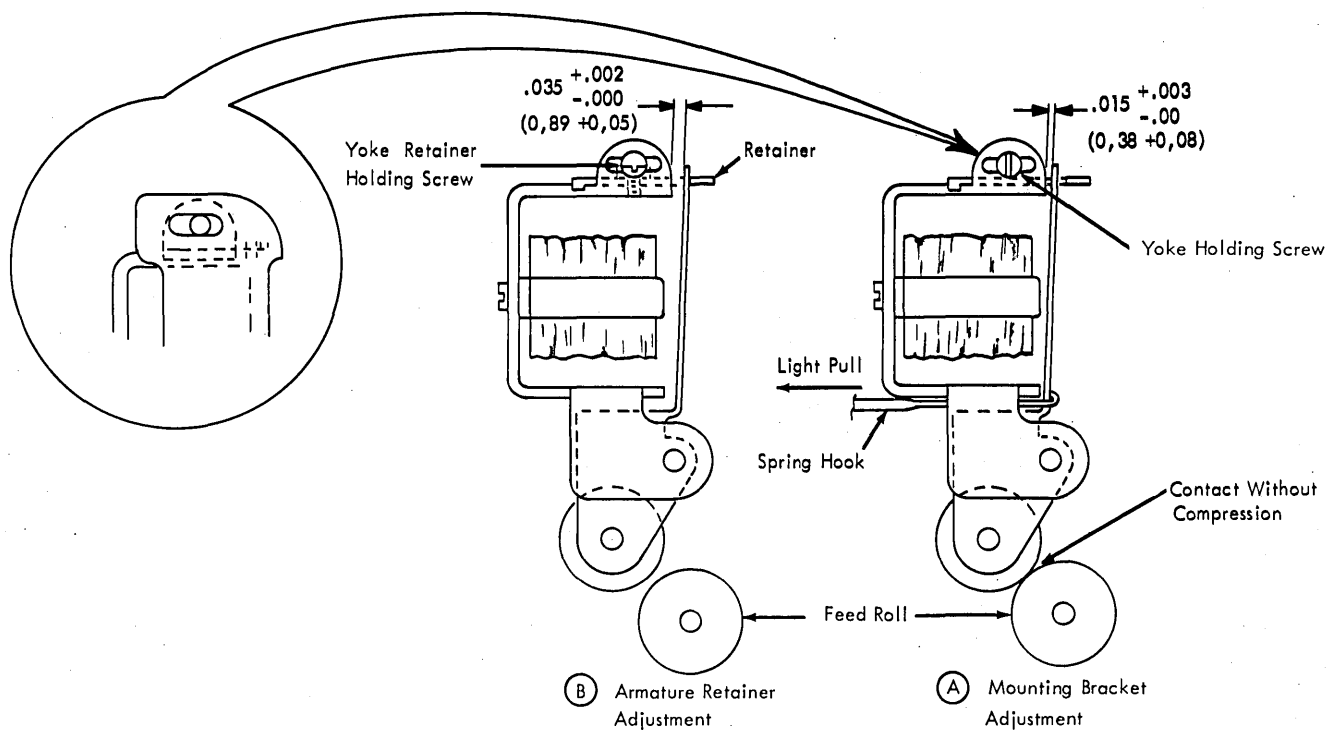

Figure 4-97. Feed Magnet Assembly Adjustments
Feed Magnet Assembly: The feed magnet assembly adjustment has two phases (Figure 4-97). The yoke adjustment controls feed-roll pressure, the retainer adjustment controls armature travel. These adjustments should be checked and performed in the correct sequence.
1. Check for $.015 + .003 - .00$ in. ($0,38 + 0,08$ mm) clearance between the armature and the yoke when the armature is attracted as shown in Figure 4-97. Use a spring hook to apply light pressure .3 to .5 pounds (136 to 227 kg) on the armature just above the pivot. Do not use excessive pressure because this compresses the feed roll and gives a false reading.